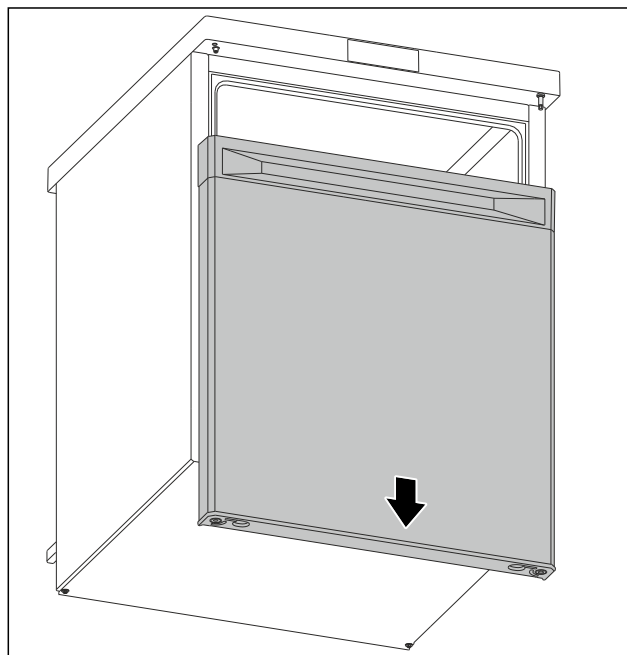

Fig. 6
- Remove the door downwards. (see Fig. 6)